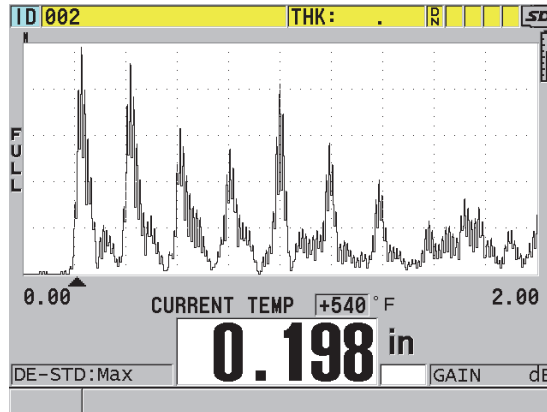

Figure 10-19 Displaying temperature compensation data
4. Press [**MEAS**] to return to the measurement screen with the activated temperature compensation (see Figure 10-19 on page 176). The measured thickness is temperature-compensated based on the **CALIBRATION TEMP**, the **CURRENT TEMP**, and the **TEMP COEFFICIENT** parameter values.